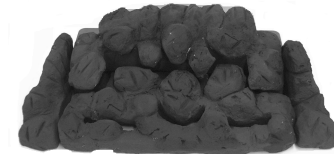

Fig 4c
Step 3 **Memphis 7 only.** Locate 2 off end coals each side of the base matrix. (See underside of coals for hand identification) (Fig 4c).